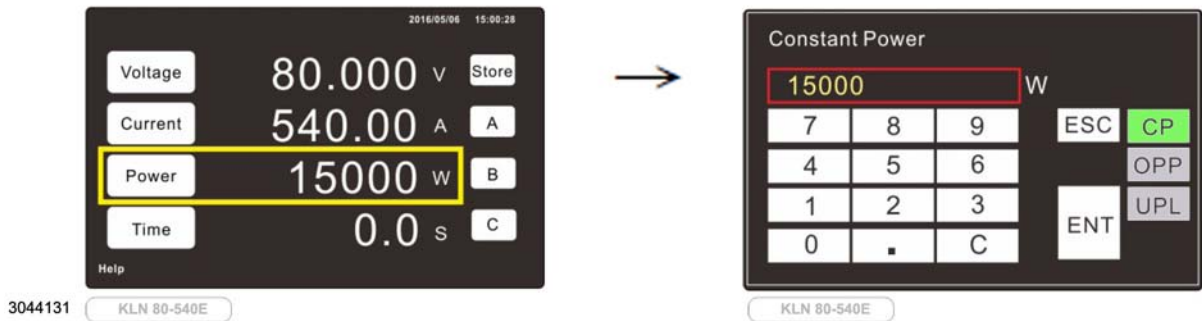

FIGURE 3-5. TOUCHSCREEN SETTING OF POWER, OVERPOWER PROTECTION AND UNDERPOWER LIMIT^{(†)(‡)}
B. TOUCHSCREEN. Touch the **Power** key (or the corresponding numerical value) shown on the display (see Figure 3-5). **CP** (Constant Power) is highlighted in green. Touch the numerical keys on the virtual keypad shown on the display in order to change the value. Touch **ENT** (Enter) key on display to confirm, or **ESC** (Escape) to cancel.
If necessary, press **HOME** switch for at least 1.5 seconds to bring up the home screen (see Figure 3-5), then touch **Power** key. **CP** is highlighted in green. To change Overpower Protection or Underpower Limit value touch the **OPP** or **UPL** key, respectively. The key changes to yellow and the **OVP** or **UVL** value is displayed. Touch the numerical keys on the virtual keypad shown on the display in order to change the value. Touch **ENT** key on display to confirm, or **ESC** to cancel.